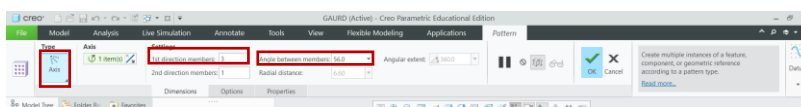

fig1.11
- Using the pattern function  make **3** members at an angle of **56** as shown in fig1.11.